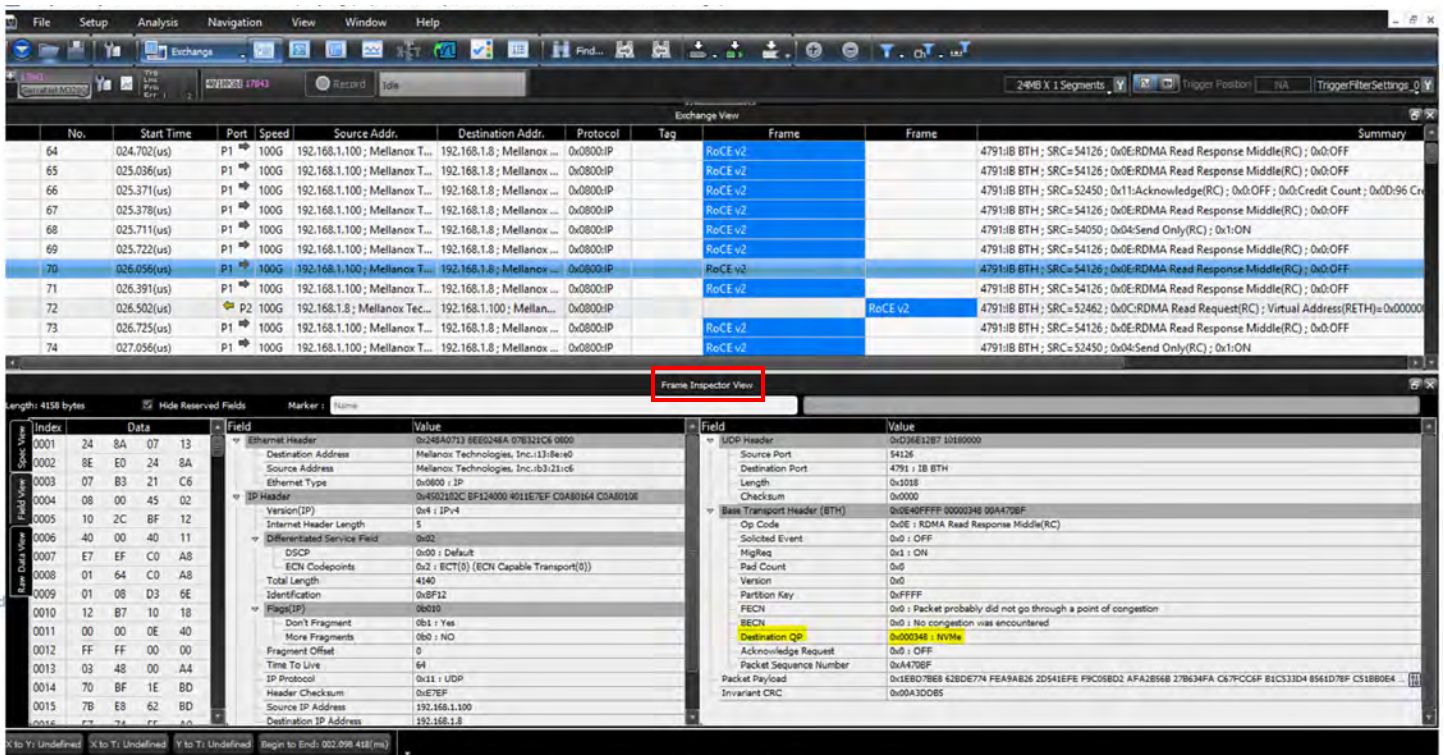

Figure G.7: Frame Inspector View
- To get each packet to decode correctly, inspect (open and use the Frame Inspector View) each packet for the “Destination QP” field under the “Base Transport Header” main field as shown Figure G.7.